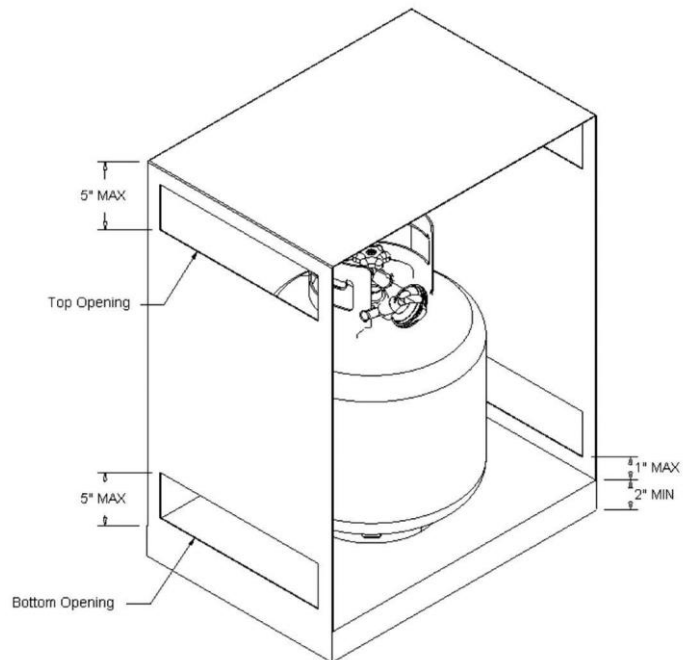

Figure 6.1 – Top and bottom side ventilation openings for LP tank enclosure.
- At least two ventilation openings shall be provided in the side walls of the enclosure, located within 5 inches (127mm) of the top of the enclosure, equally sized, spaced at a minimum of 180 degrees, and unobstructed. The opening(s) shall have a total free area of not less than 1 in² lb. (14.2 cm²kg) of stored fuel capacity. See Figure 6.1.
- Ventilation opening(s) shall be provided at the floor level of the enclosure and shall have a total free area of not less than 1/2 in² lb. (7.1 cm²kg) of stored fuel capacity. If ventilation openings at floor level are in a side wall, there shall be at least two openings. The bottom of the openings shall be 1 inch (25.4mm) or less from the floor level and the upper edge no more than 5 inches (127mm) above the floor level. The openings shall be equally sized, spaced at a minimum of 180 degrees and unobstructed. See Figure 6.1.